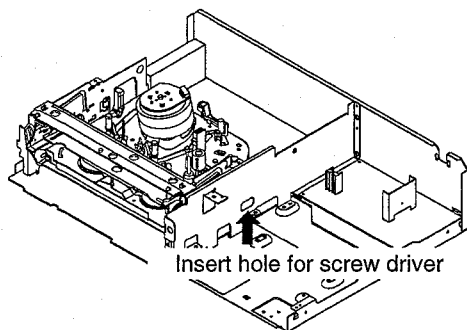

Fig. 1
1. Remove the Top Cabinet, Front Cabinet and DVD Block and the Fig. 1 below can be seen. (Refer to item 1 of the **DISASSEMBLY INSTRUCTIONS**.)